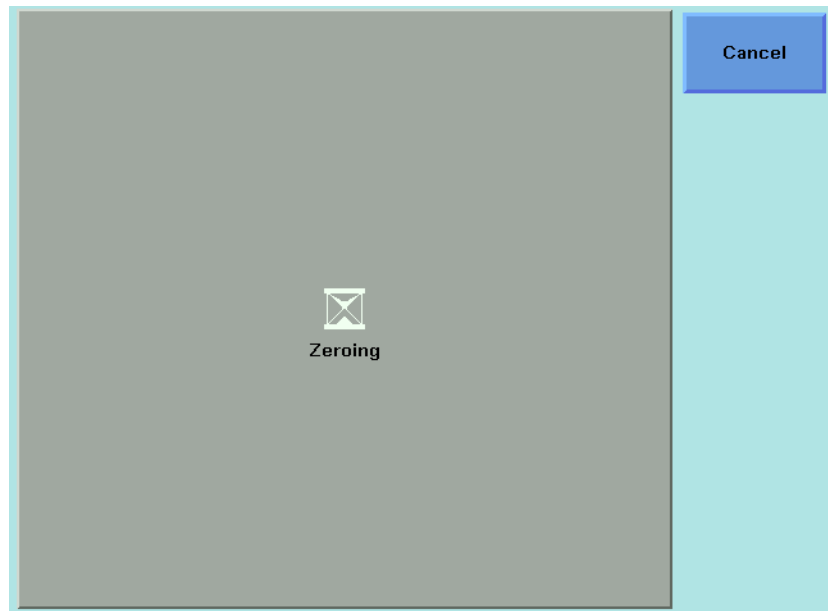

Figure 60 Zeroing Screen
- 3 Move to the **<Zero>** option to zero the current power measurement channel or the **<Zero All>** option to zero all power measurement channels. You will see the screen shown in Figure 60 on page -108, this appears for around 30 seconds while zeroing is performed.